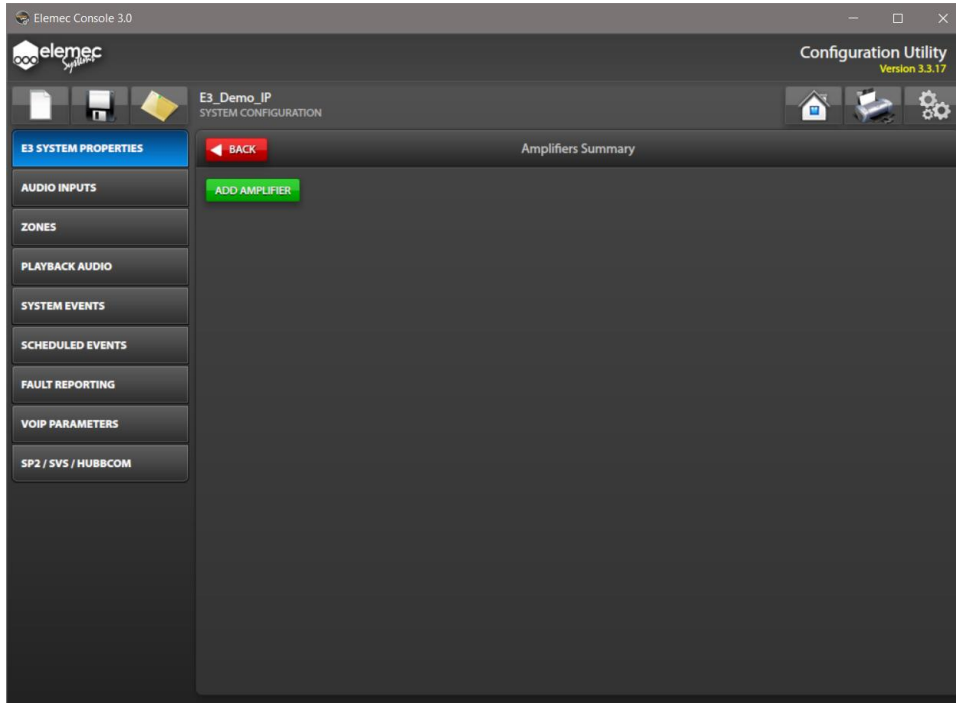

Figure 20. Amplifiers Summary
1. Click the AMPLIFIERS button on the SYSTEM PROPERTIES screen to open the AMPLIFIERS SUMMARY screen (see Figure 20). The summary screen displays all amplifiers in the system.